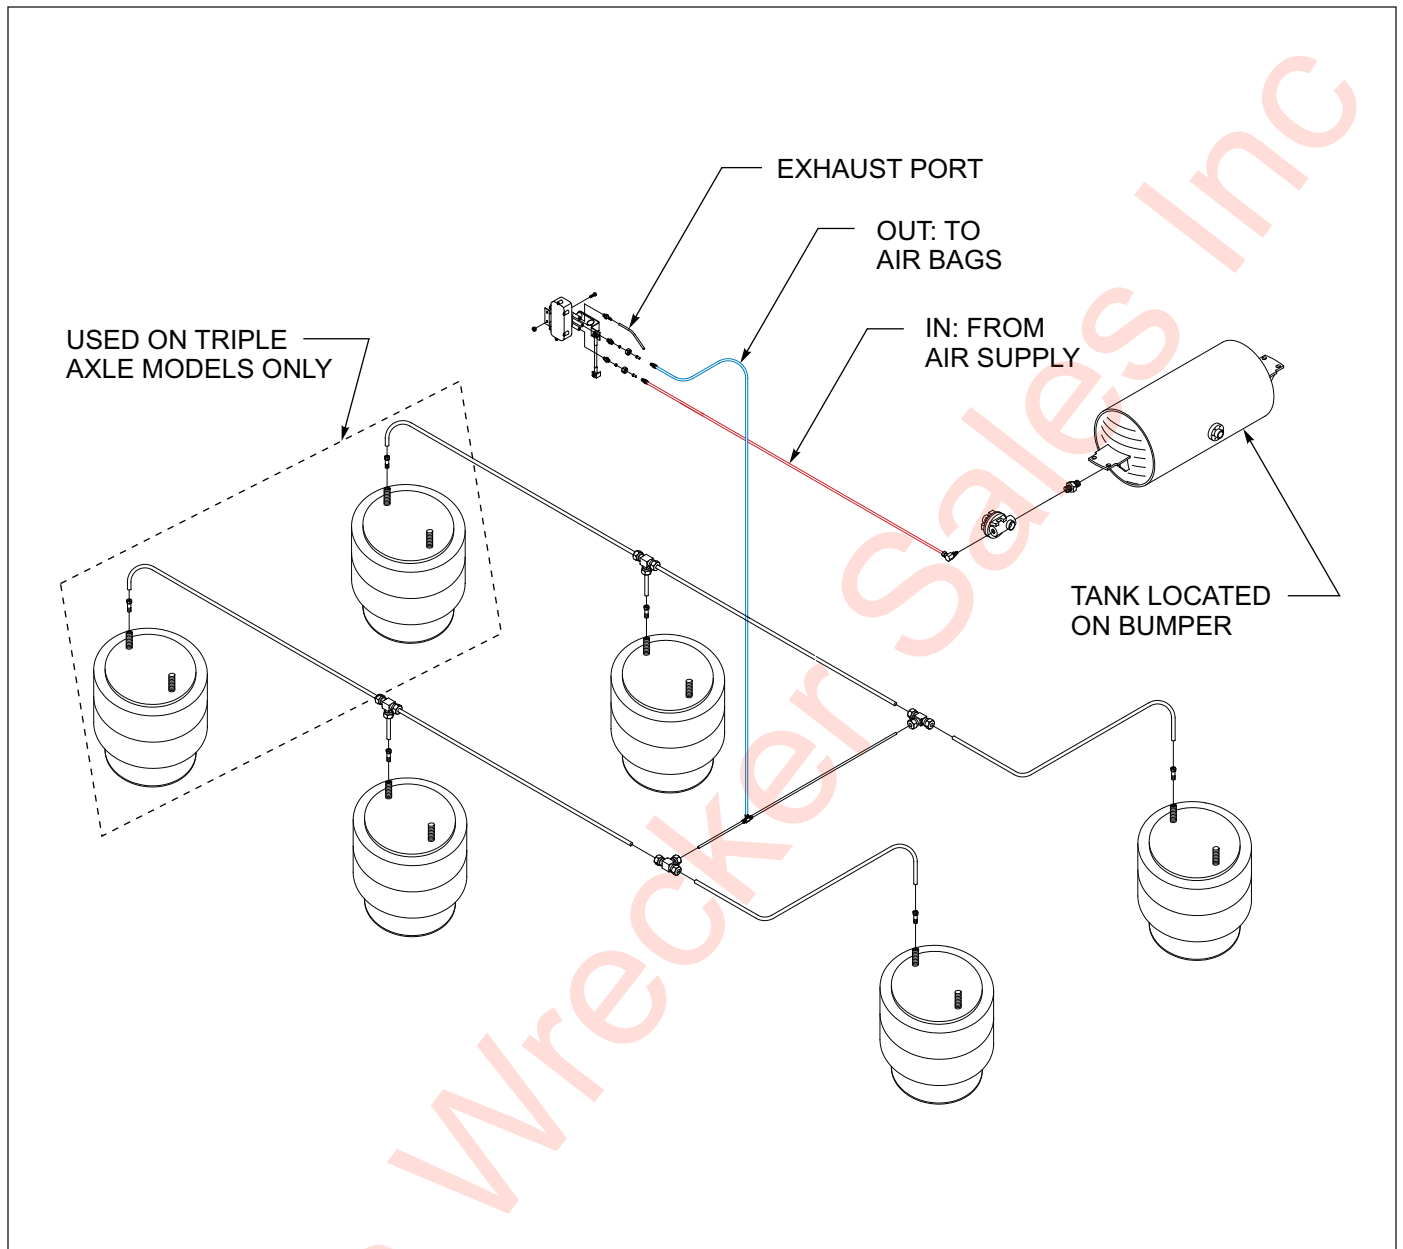

Figure 4-7: Tandem Axle Air Ride Suspension System
1. (See **Figures 4-7** and **4-8**) for Tandem and Triple Axle Air Ride Suspension drawings.